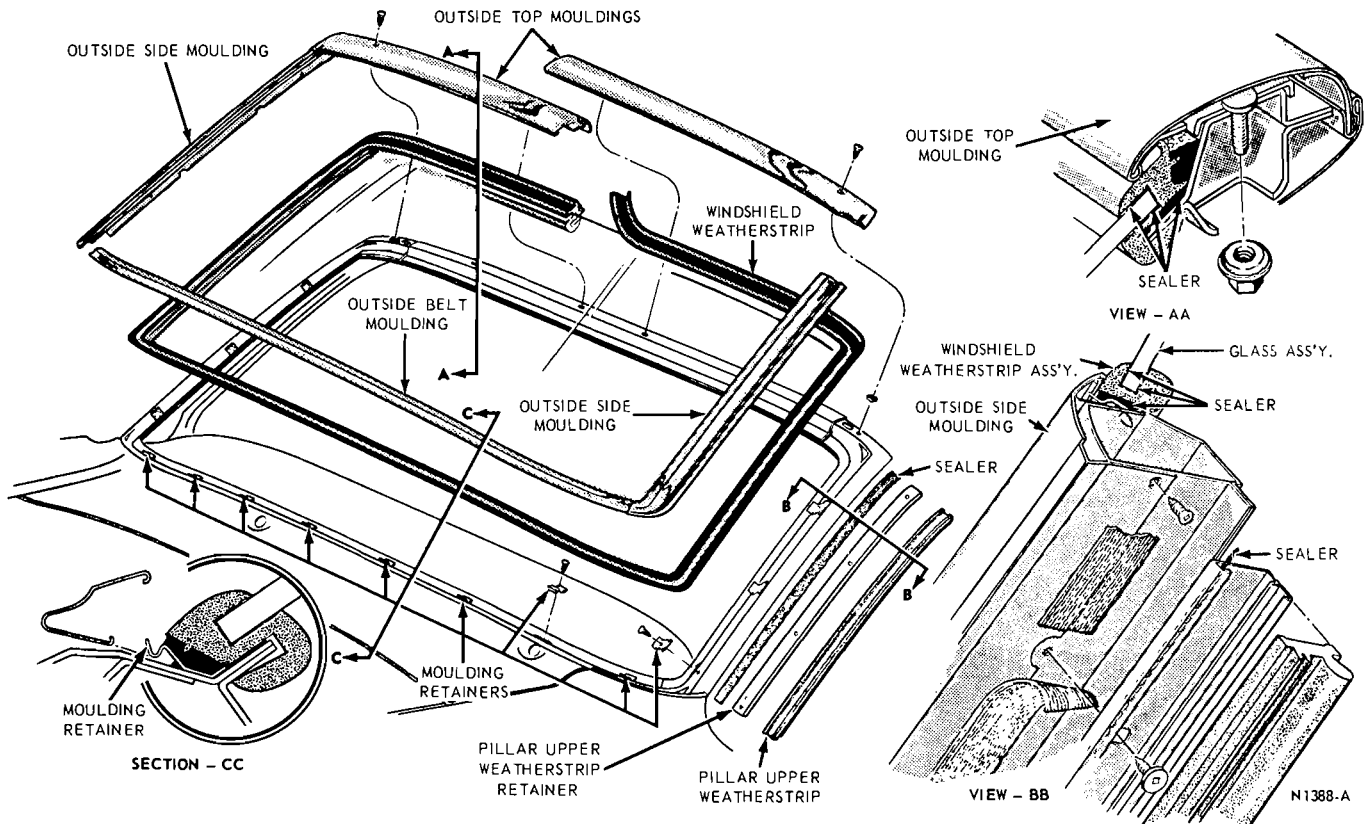

FIG. 27—Windshield Installation—Mustang Model 76
pillar weatherstrips (Fig. 27). Note that these weatherstrips are pressed into their retainers and attached with two screws, one at the top and bottom.
7. Remove the retaining screw and two retaining nuts from each left and right windshield outside top moulding and remove the mouldings (Fig. 27, View AA).
8. Install the outside belt moulding (Fig. 27) by snapping the moulding over the retaining clips.
front upper body pillar weatherstrip retainers (Fig. 27) and install the retaining screws.